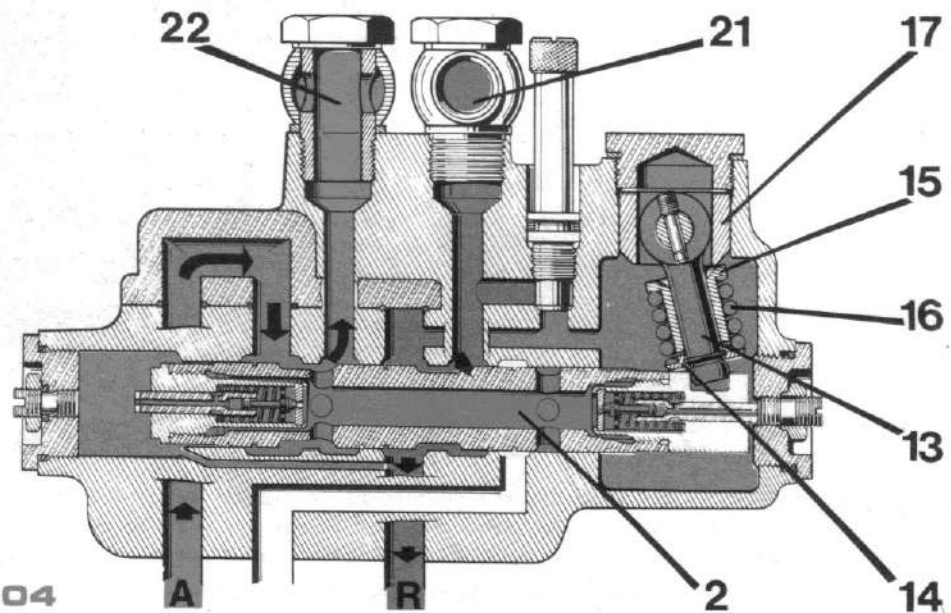

FIG. 104
b) POSITION DEVELOPPEMENT DU VERIN (FIG.104)